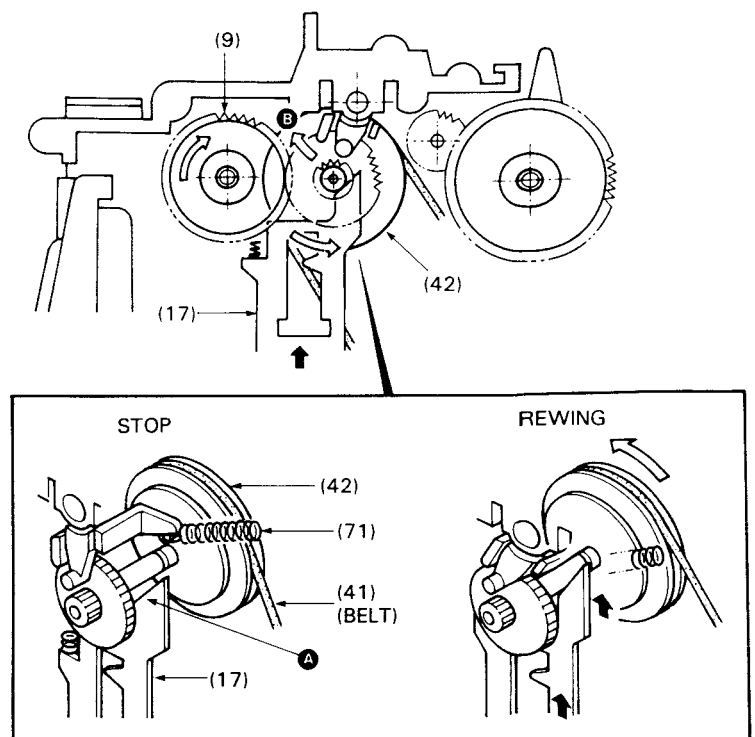

Fig. 5 REW
4. Rewind (REW) Operation (Fig. 5)